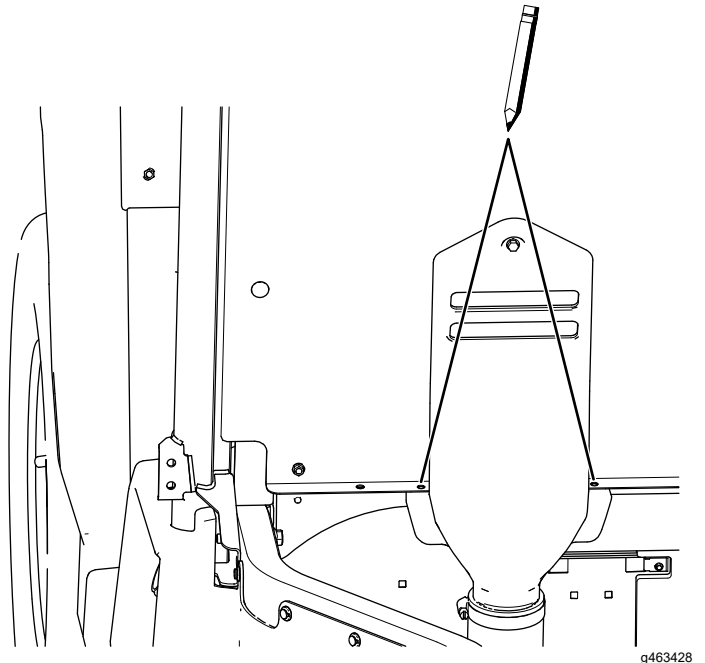

Figure 63
- C. Using the CVT-intake hood as the template, mark the 2 hole locations (Figure 63).